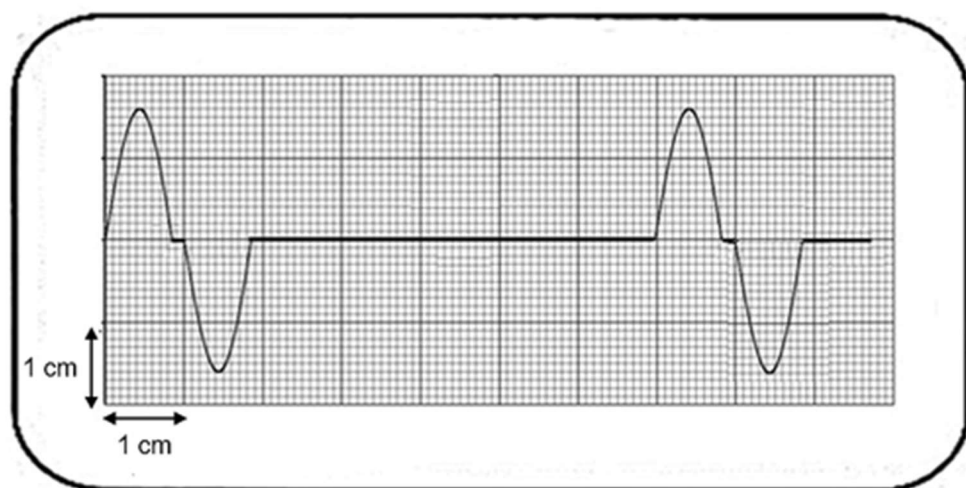

Fig. 5.2 (not to scale)
The voltage produced is monitored using a cathode ray oscilloscope (c.r.o.). The waveform displayed on the c.r.o. is shown in Fig 5.2.
- (i) Using the laws of electromagnetic induction, explain the shape of the waveform obtained in Fig. 5.2.
- (iv) Describe and explain the changes, if any, to the waveform displayed in Fig. 5.2 when the rate of revolution of the cylinder is doubled.